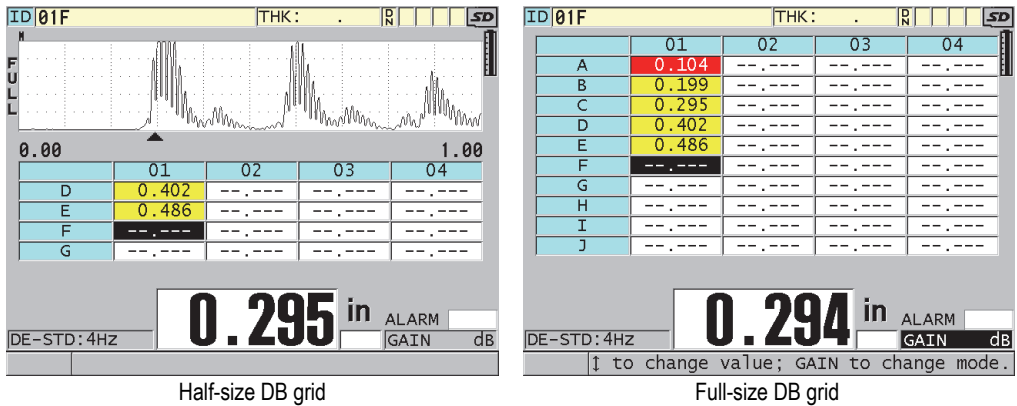

Figure 10-10 Example of half-size and full-size DB grids
5. Set **GRID SIZE** to one of the desired database grid size options (see Figure 10-10 on page 167):